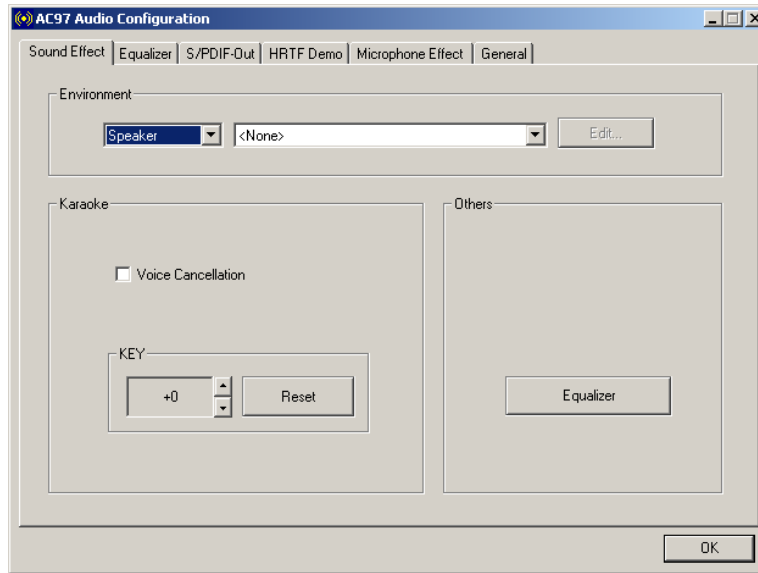

Figure F-3: Sound Effects Manager (ALC850)
Step 3: The sound effect manager appears (Figure F-3).
The Sound Effect Manager shown in **Figure F-3** is for the RealTek ALC850 audio CODEC. Different CODECs may have different sound manager appearances.
The **Sound Effects Manager** enables configuration of the items listed below. To configure these items click the corresponding menu tab in the **Sound Effects Manager** (**Figure F-3**).